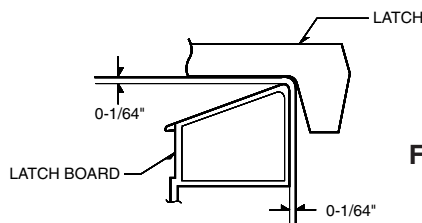

Figure 24
- (2) Close the door tightly and check gaps A and B to be sure they are no more than 1/64 inch (0.5 mm). See Figure 24 for close-up view of gaps A and B (door latches). If all gaps are less than 1/64 inch (0.5 mm), adjustment of the latch board may not be necessary. Go to Steps 5 and 6 to check the sequence of the switches.